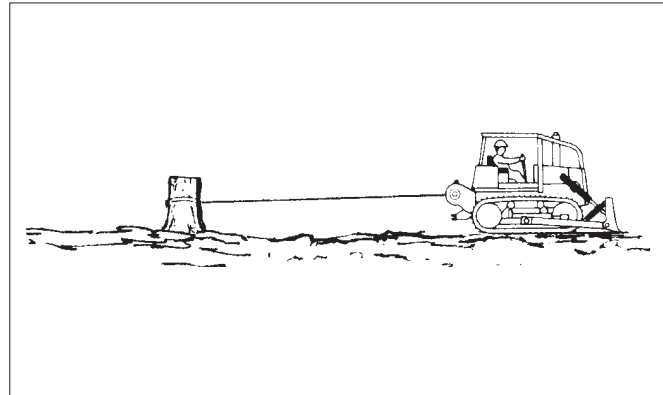

Figure 18 Moving a Disabled Vehicle (Step A)
A. A dozer or skidder often travels in areas where traction conditions are bad. A vehicle equipped with a winch can be used to remove itself from mud or other areas where it cannot move using only the drive wheels or tracks. See Figure 18. Use the following procedure: